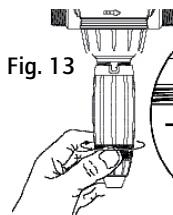

Fig. 13
- Unscrew the blocking ring (Fig. 13).